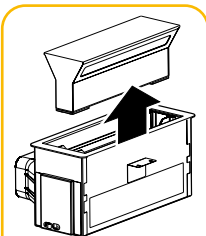

Fig. 9
1. Press on the label on the appliance, open the lighting and filter group (Fig. 9).